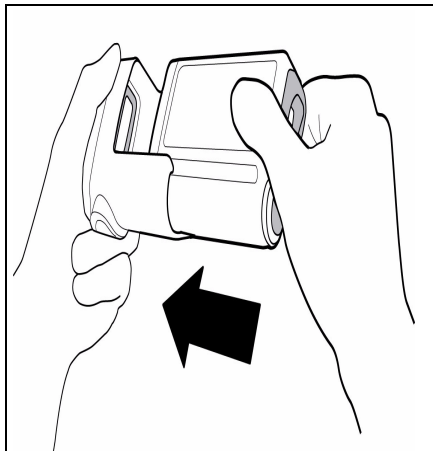

FIGURE 10-8 Inserting Telepack into SpO₂ Module
4. Align the two devices (shown in FIGURE 10-8) and then slide the SpO₂ Module into the Telepack. First, the connectors are mated; Continue pushing the devices together firmly until a loud audible "click" is heard as the mechanical latch is engaged.